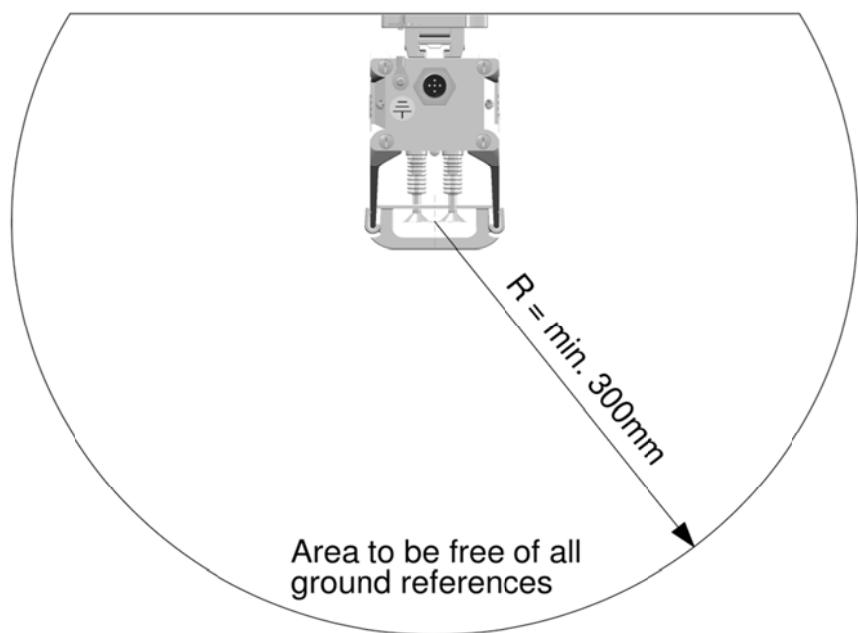

Figure 4
- Pour les distances minimales, cf. Figure 4.